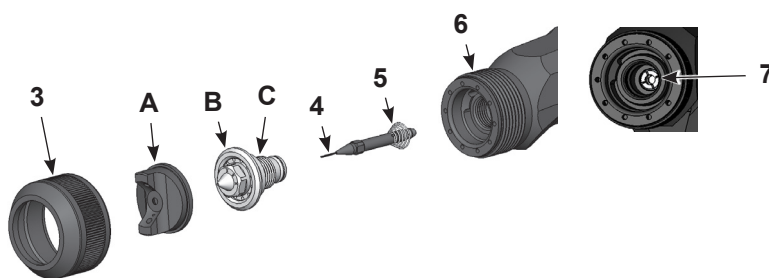

Figure 7-2 Air Cap, Fluid Tip, and Needle Replacement
3. See Figure 7-2. Unscrew the retaining ring (3) and remove it and the air cap (A) from the extension (6).